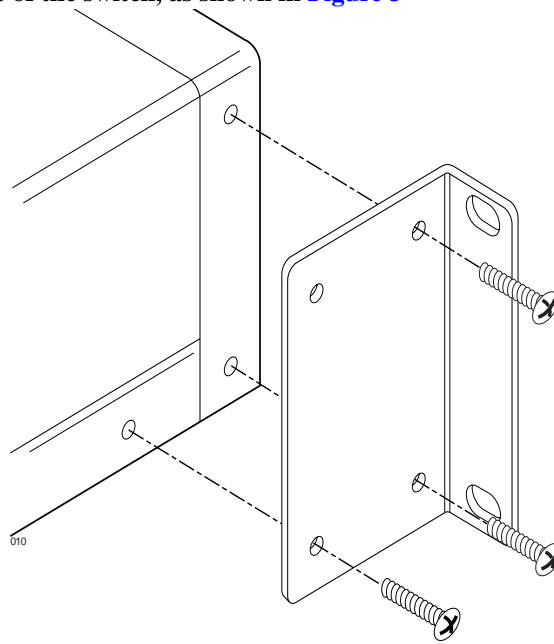

Figure 3 Position Mounting Brackets for Rack Mount
3. If mounting the unit in an equipment rack, first connect the two mounting brackets to the side of the switch, as shown in Figure 3